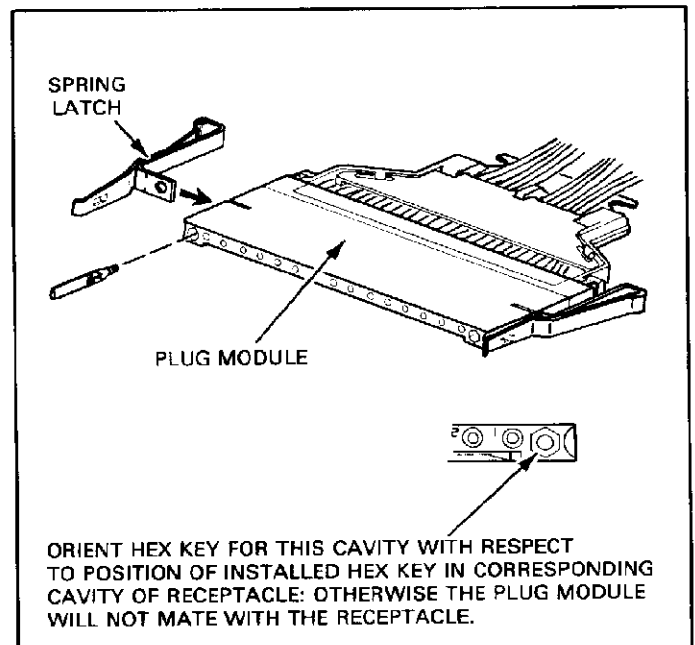

Fig. 7
1. Refer to Figure 7 and fit a spring latch into the slot of the plug module. If using a multiple (two, three, four, or five plug modules) spring latch, arrange as many plug modules on top of each other as specified, so that the spring latch can be positioned in the slots.